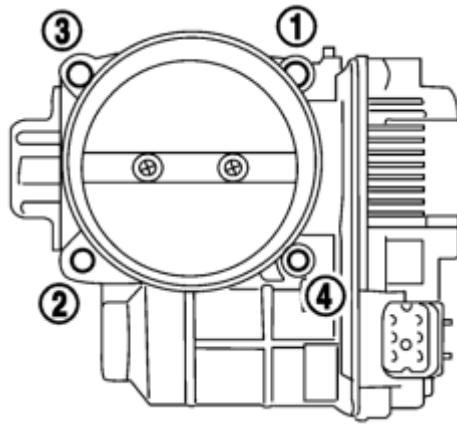

Figure 24
7. Loosen the (4) four Throttle Body Mounting Bolts in reverse order as shown below. *Figure 24.*